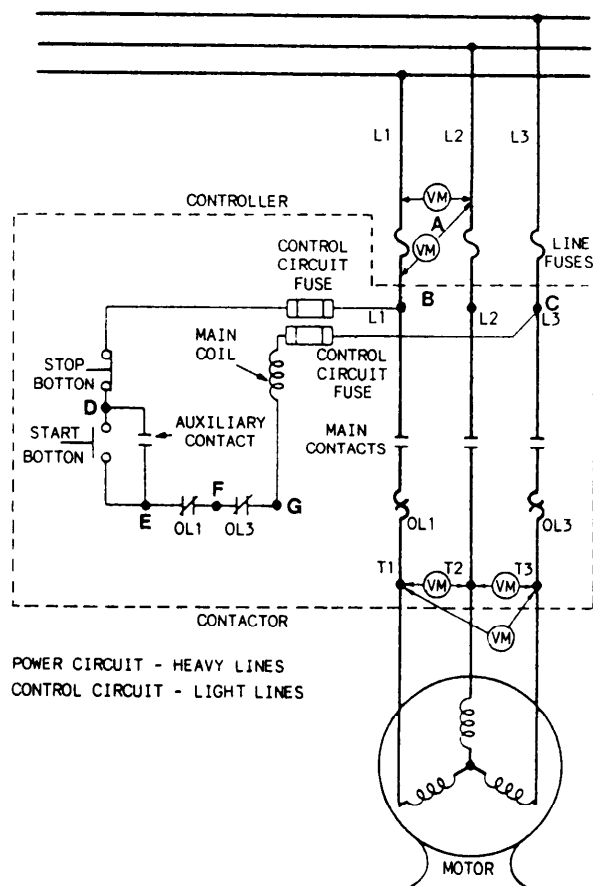

Figure 10-10.—Troubleshooting a 3-phase magnetic controller.
example of troubleshooting a motor-controller electrical system is given in a sequence of steps that may be used in locating a fault (fig. 10-10). We will analyze the power circuit and then the control circuit.
When no visual signs of circuit failure can be located and an electrical failure is indicated in the power circuit, first check the line voltage and fuses (or CB), as shown in figure 10-10. Place the voltmeter probes on the hot side of the line fuses as shown at position A. A line voltage reading tells you that your voltmeter (VM) is operational. It tells you that you have voltage to the source side of the line fuses. You may also check between the other lines. To check the fuse in line 1 (L1), place the voltmeter across the line fuse as
2. Place the voltmeter probes at points C and D (fig. 10-10). You should have a voltage reading when the STOP switch is closed. You should have a no-voltage reading when the STOP switch is open. The conditions would indicate a good STOP switch and control circuit fuse.